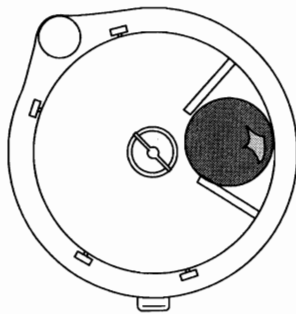

Fig. 4
The feed chute has two fixed and two removable partition walls. These partition walls can be placed in different positions to form a compartment that fits the product (Figs. 4 — 9). Partitions can easily be removed with the pusher in the bottom of the feed chute. Merely press the detent catch and raise the partition up and out of the feed chute. To replace the partition, slide the partition down the slot in the sidewall of the feed chute until the detent catch engages.
- The fixed compartment (Fig. 4) is used for products such as cucumbers, celery, or round products such as tomatoes, citrus, onions, etc. For best results, position these products cross-wise to the cutting blade.